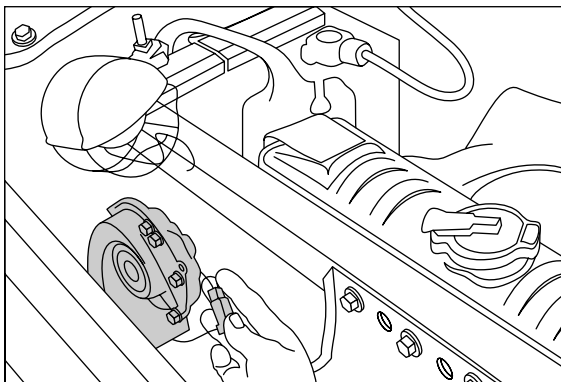

Figure 20-1: If your horn gets stuck, pull a wire to silence it.
- ✔ **If the horn is stuck**, your vehicle is producing what may be the worst noise it can make. *Before* this happens, have someone honk your horn until you can locate it under your hood. There are usually two horns, and each one has a wire leading to it. If your horn gets stuck, pull these wires to stop the noise (see Figure 20-1) — sometimes you have to pull only one. When you take your car to a service facility to have the horn fixed, tell the mechanic that you pulled the wires, and find out why the horn got stuck. If you can't get at the horn wires, pull the **fuse** that goes to the horn to stop the noise. Another way to quiet things down fast is to disconnect one **battery** terminal. Of course, your vehicle won't run with the battery terminal disconnected, so this is just a short-term measure until you can fix the horn or help arrives.